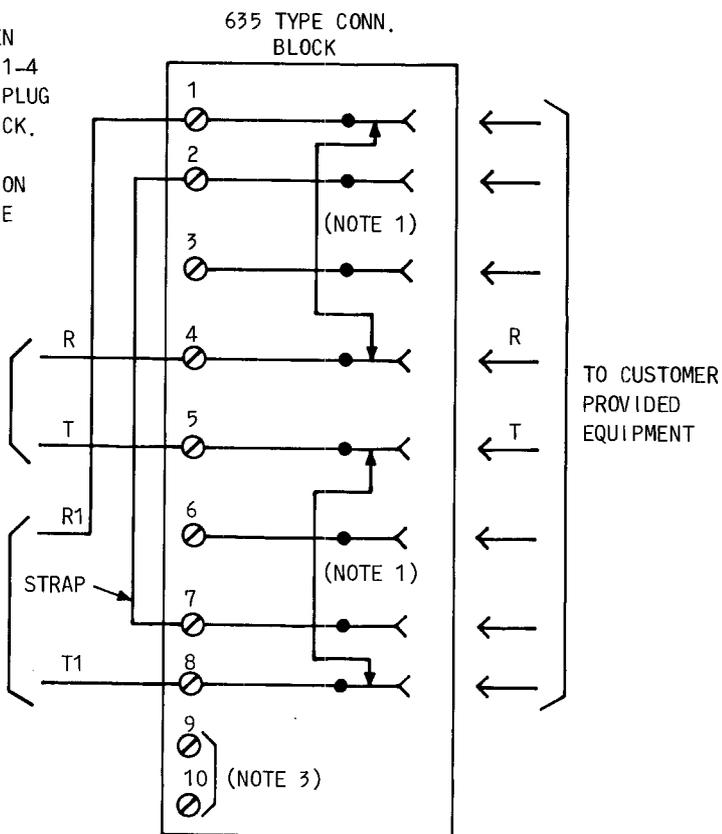

Fig. 10—Connections for USOC RJ38X
and has a continuity circuit. A strap must be added to terminals 2 and 7 of the 635-type connecting block (Fig. 10)—terminals 3 and 6 are reserved for TELCO use. When the CPE is plugged into the 635-type connecting block, the CPE is placed in series with the tip and ring of the line. When the CPE plug is removed, tip and ring are cut through to the station equipment. ***The 635-type connecting block must be wired in the circuit ahead of ALL station equipment, to prevent false operation of the registered device and to cut off ALL station equipment from the line.*** Typical usage is alarm reporting devices.
2.001 On Page 12, add new Fig. 10.